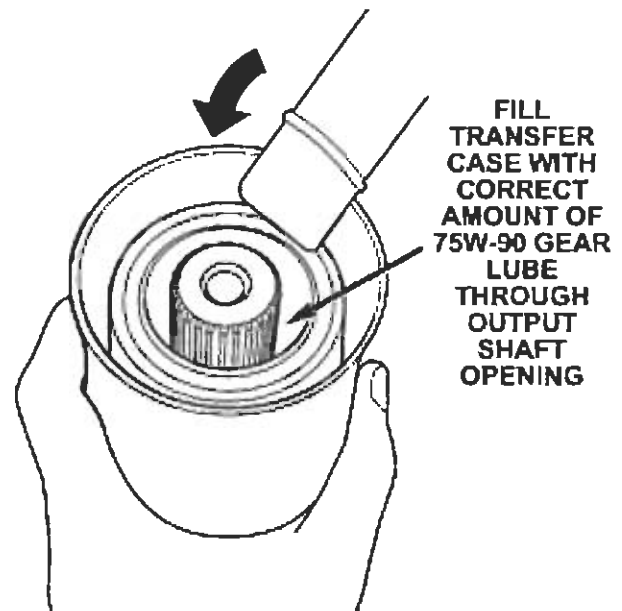

Figure 24
56. Fill the transfer case through the output shaft opening with Mopar 75W-90/GL-5 Gear Lube (Mopar P/N 05010320AA) (Figure 24).